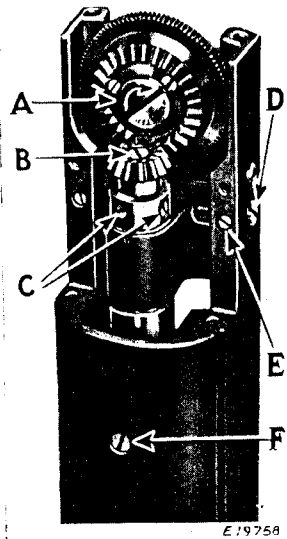

Fig. 29
The height of the feed wheel is regulated by adjusting the eccentric stud (D, Fig. 29). To raise or lower the feed wheel, loosen the set screws (E and F, Fig. 29) and turn the eccentric stud (D, Fig. 29) to right or left until the feed wheel is at the desired height, then securely tighten the set screws (E and F).
Remove feed wheel cover and throat plate. Loosen the two set screws (C, Fig. 29) in the pinion gear, then remove the screw studs (A and B, Fig. 29), the screw (A) being right hand and the screw (B) left hand. The pinion and wheel feed may then be removed.